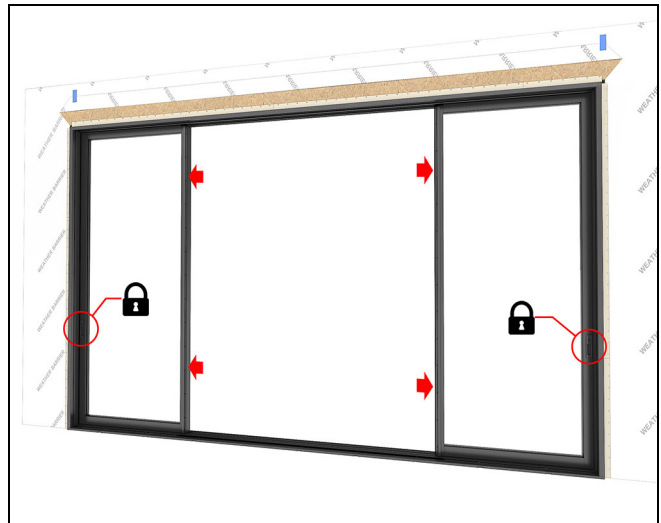

Figure 148
2. Close and lock the panels. See Figure 148.